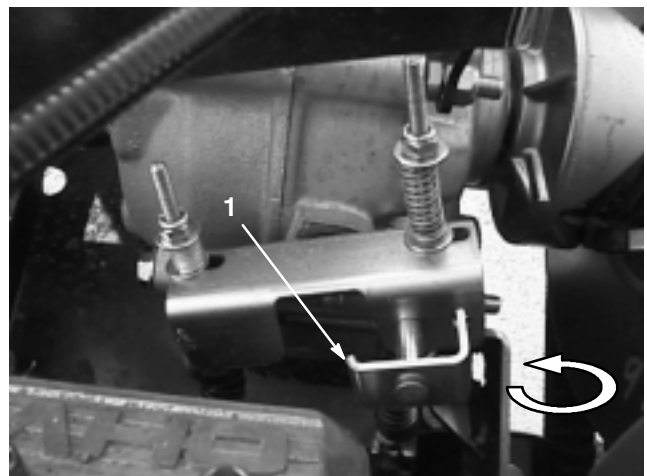

Figure 24
1. To lock the transaxle in neutral, rotate the locking pin 180 degrees on the shift block (Fig. 24).